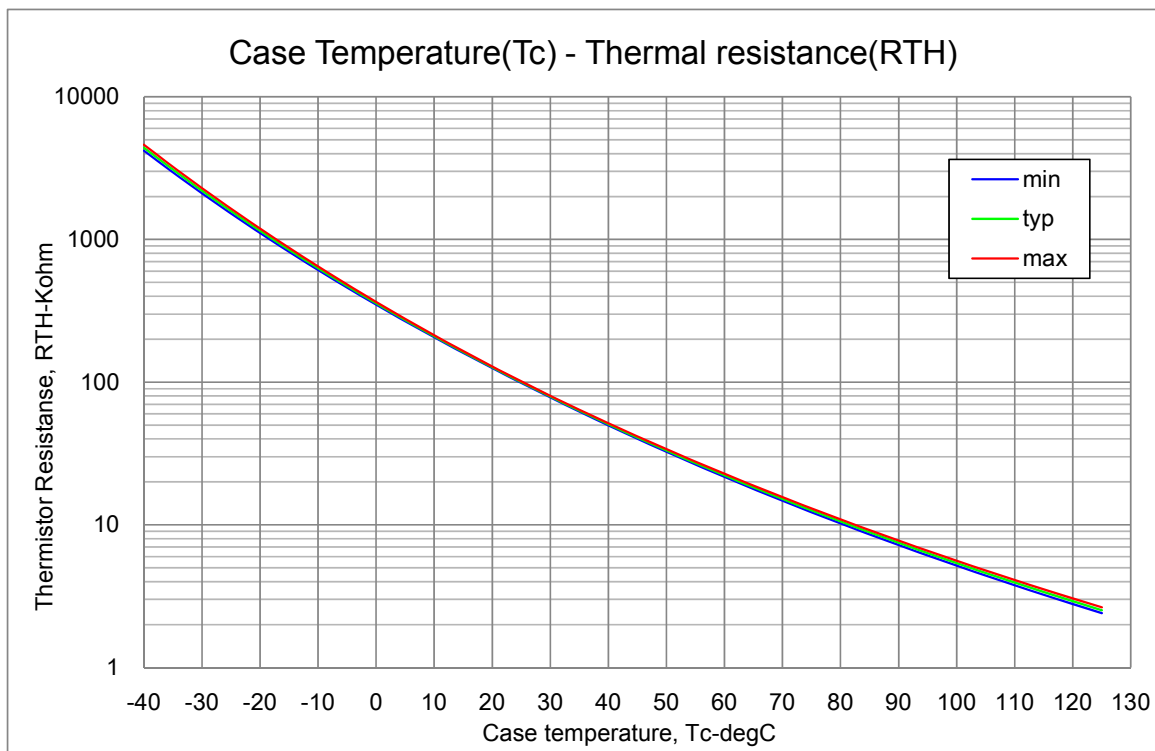

Fig.10 Variation of thermistor resistance with temperature
- Inside the IPM, a thermistor used as the temperature monitor for internal substrate is connected between V_{SS} terminal and V_{TH} terminal, therefore, an external pull up resistor connected between the TH terminal and an external power supply should be used. The temperature monitor example application is as follows, please refer the Fig.10 and below.